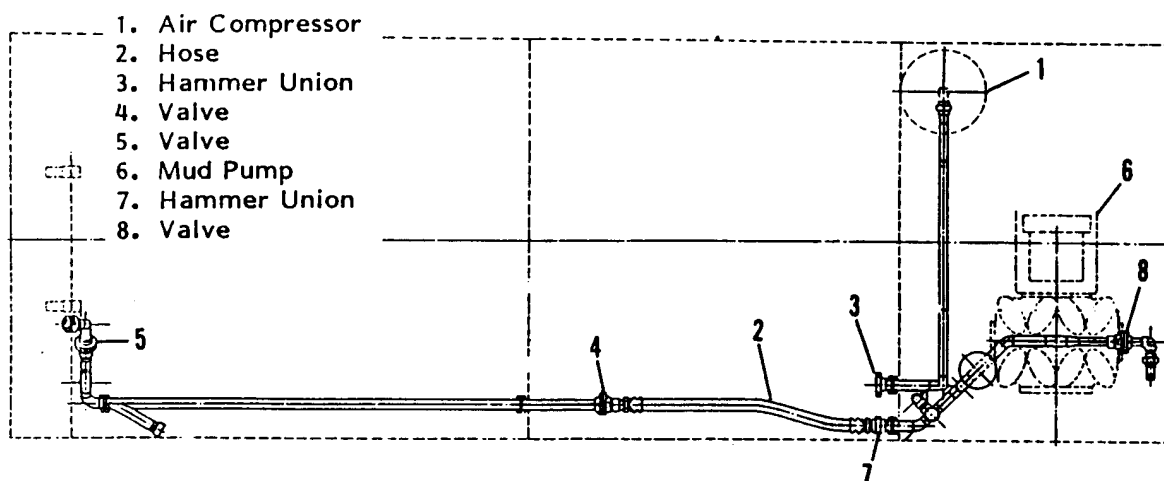

Figure 2-28. Connecting Discharge Piping
- (2) Use a hammer to break the hammer union connection. Unscrew the union; then connect the routing hose (2, figure 2-28) to either the air compressor hammer union (3) or mud pump hammer union (7). Use a hammer to tighten the union. Open discharge valves (4 and 5) by positioning the handles to run parallel to the piping. If using the mud pump, be sure valve (8) is closed (handle perpendicular to piping).
- (1) Connect the discharge piping to the air compressor. (See paragraph 2-9, g.) Open discharge valve (4, figure 2-28); close discharge valve (5).